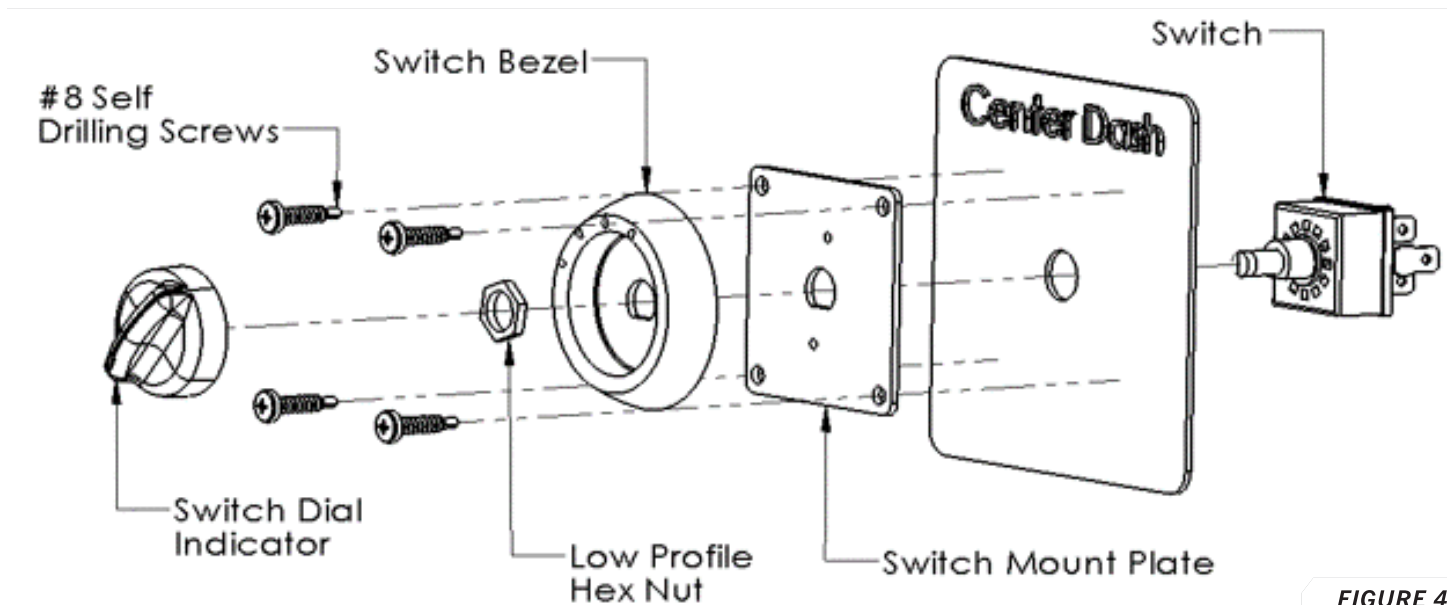

FIGURE 4
17. Place the switch dial indicator on the switch body shaft as shown in *FIGURE 4*.